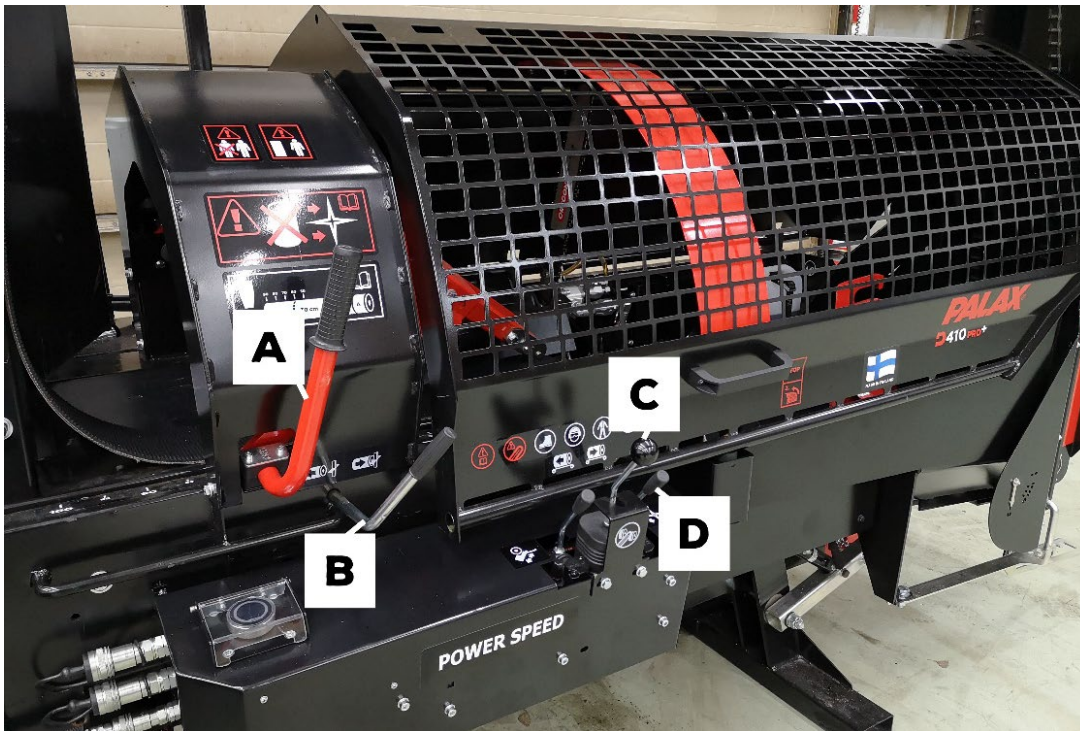

Figure 10
5. Pull open the lock A, Fig. 10.
7. Remove the support bar B for the conveyor chain, Fig. 10, and attach it to the holes C at the edge of the conveyor.